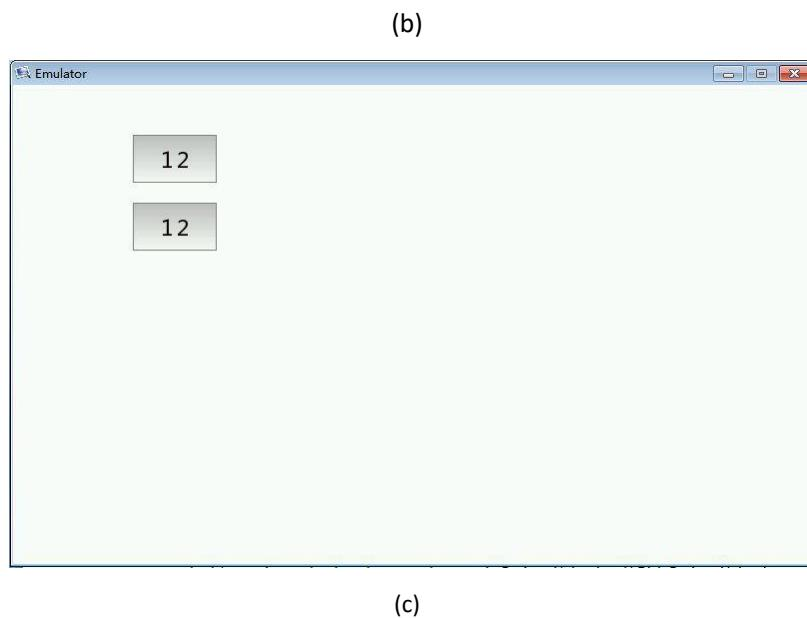

Fig. 16
(8) Debug with the simulator to view the design effect, as shown in Fig. 16.